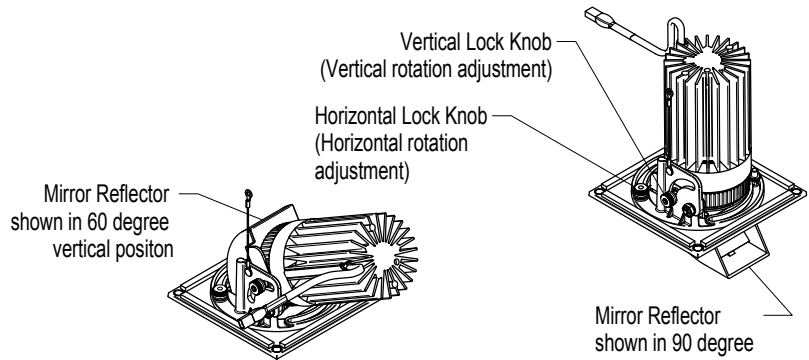

FIG. 4.3 Lamp Module Adjustment
Step 2 Adjust vertical to 90 deg position as shown in Fig. 4.3. **Note: angle adjustment is limited on ceilings over 5/8" thick & when Mirror Reflector is aligned facing narrow sides of Housing.**